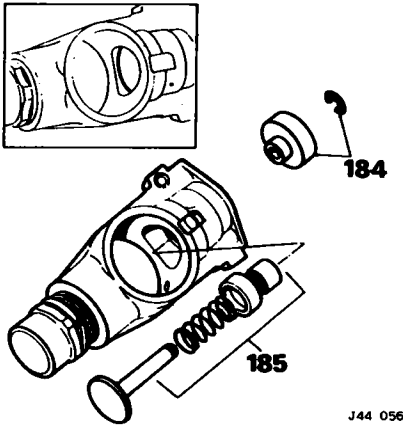

Fig. 55
- 184. Remove the circlip and weight, discard the circlip (Fig. 55).
- 185. Withdraw the stem, spring and valve from the governor body (Fig. 55).